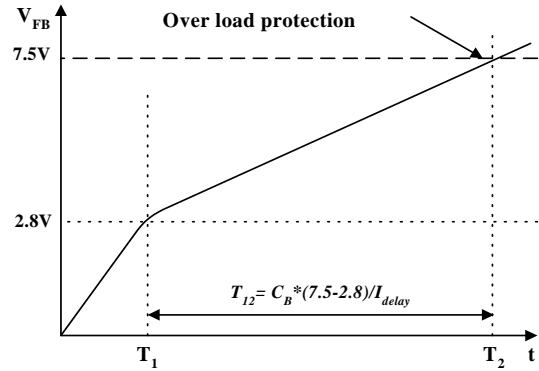

Figure 13. Over Load Protection
4.1 Over Load Protection (OLP): Overload is defined as the load current exceeding its normal level due to an unexpected abnormal event. In this situation, the protection circuit should trigger to protect the SMPS. However, even when the SMPS is in the normal operation, the over load protection circuit can be triggered during the load transition. To avoid this undesired operation, the over load protection circuit is designed to trigger after a specified time to determine whether it is a transient situation or an overload situation. Because of the pulse-by-pulse current limit capability, the maximum peak current through the SenseFET is limited, and therefore the maximum input power is restricted with a given input voltage. If the output consumes more than this maximum power, the output voltage (Vo) decreases below the set voltage. This reduces the current through the opto-coupler LED, which also reduces the opto-coupler transistor current, thus increasing the feedback voltage (Vfb). If Vfb exceeds 2.8V, D1 is blocked, and the 5uA current source starts to charge CB slowly up to Vcc. In this condition, Vfb continues increasing until it reaches 7.5V, then the switching operation is terminated as shown in Figure 13. The delay time for shutdown is the time required to charge CB from 2.8V to 7.5V with 5uA. In general, a 20 ~ 50 ms delay time is typical for most applications. OLP is implemented in auto restart mode.